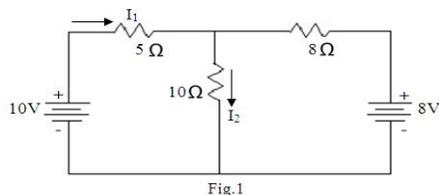

Fig.1
1. Fig.1 shows a two D.C source network, the branch current I_1 and I_2 are marked in it. By using kirchoff's law to find the current I_1 .